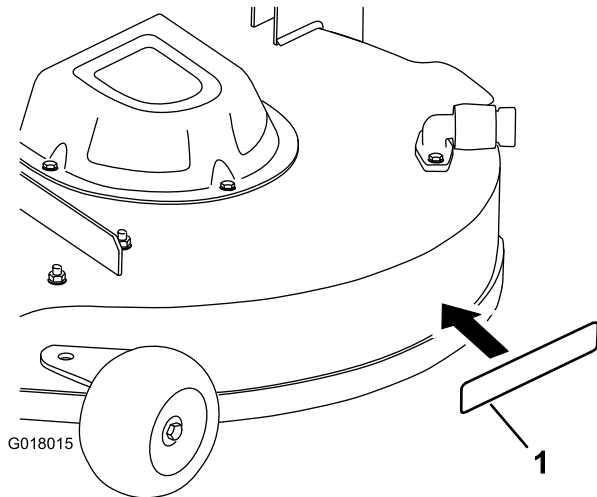

Figure 6
17. Install the decal to the area shown in Figure 6.
- C. Peel the decal from the backing and install it in place (Figure 6).